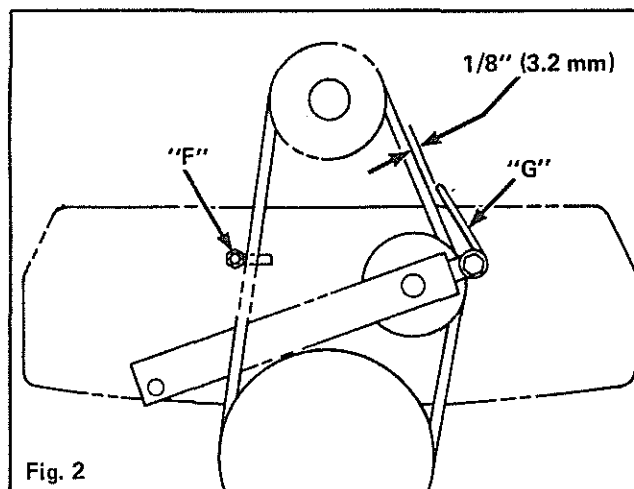

Fig. 2
14. R.H. belt guide (F) Fig. 2 from axle casting.
15. Loosen L.H. wire form belt guide (G) Fig. 2 and pivot down.
10. Position belt guide (F) Fig. 2 in place and secure using lockwasher and nut. Leg of guide must be behind belts.
11. With PTO lever in the ON position secure wire belt guide (G) to provide approximately 1/8" (3.2 mm) gap between guide and belts.